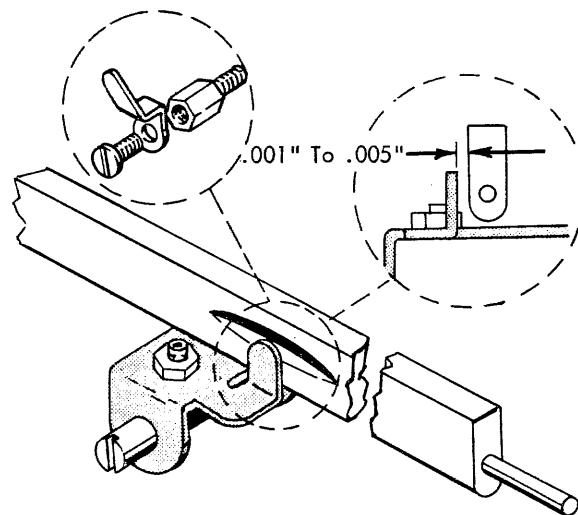

FIGURE 103. Torque Bar Backstop
- 4. Torque Bar Back Stop - Adjust the back stop forward or back on its mounting stud so that there is a .001" to .005" clearance with the torque bar (Fig. 103).